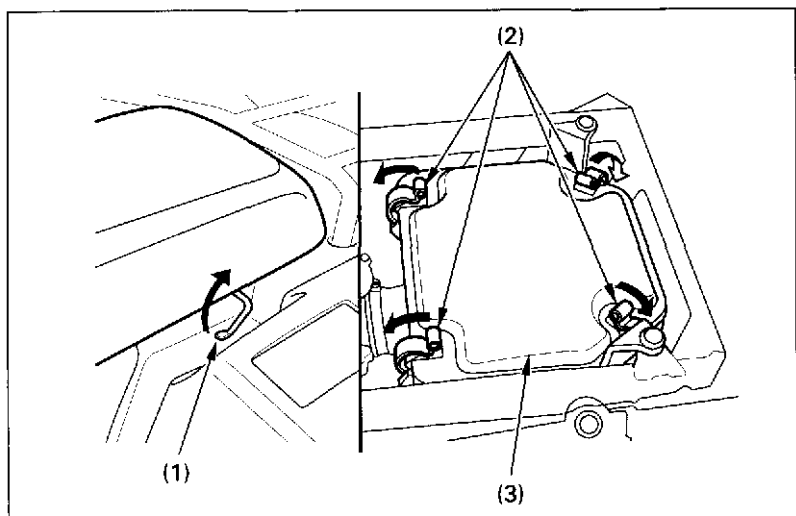

Fig. 4-4 (1) Seat lock lever
1. Remove the seat by pulling up the seat lock lever (Fig. 4-4).
2. Unfasten the four retainer clips (2) and remove the air cleaner housing cover (3).